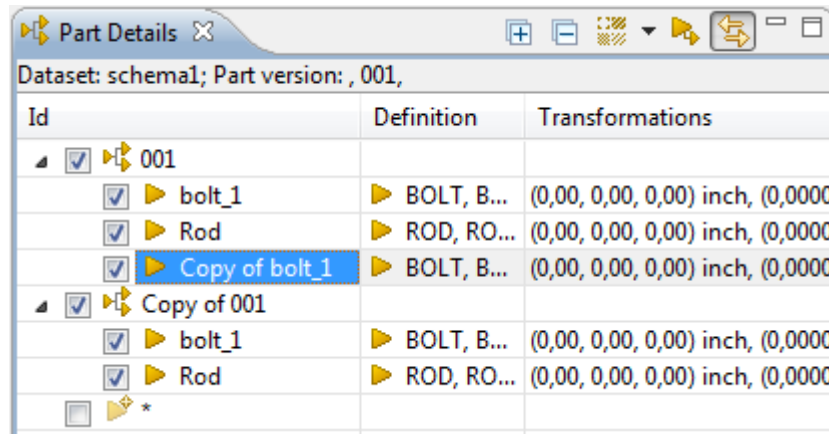

Figure 2. Copy of part definition component
- Select **Paste** menu item in the context sensitive menu or press **CTRL + V** keys. The copy of the selected component appears in the tree table (see Figure 2).